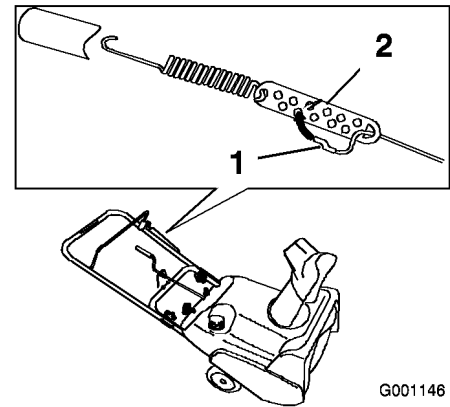

Figure 24
2. Move the Z-fitting to a higher or lower hole in the adjuster link as needed to obtain the 1/16 to 1/8 inch (2 to 3 mm) gap between the control bar and the handle (Figure 24).